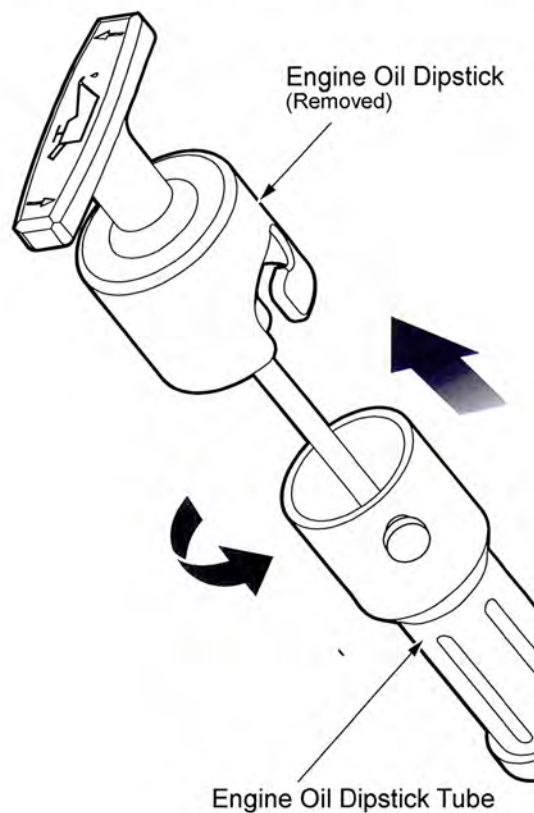

Figure 2
2. Twisting counterclockwise unlock the engine oil dipstick then, pulling upward, remove the dipstick from the engine oil tube and discard (see Figure 2).